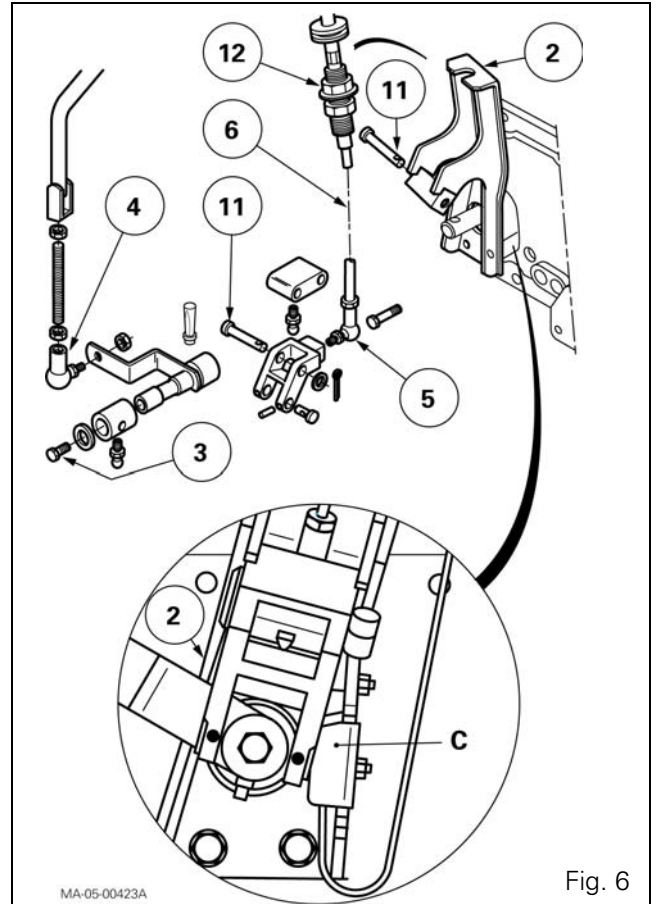
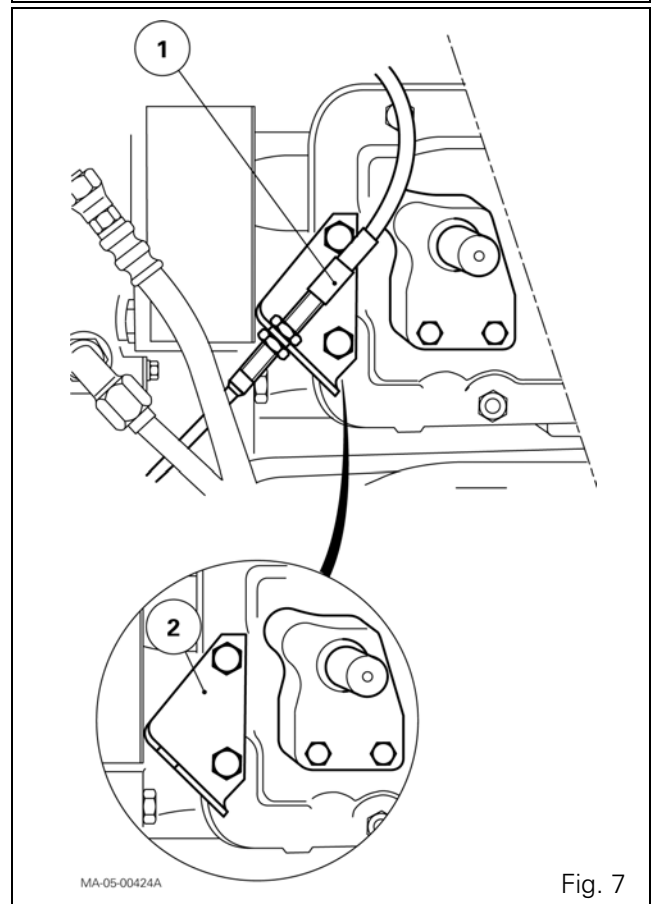

Fig. 6
Fig. 7
Removal (Fig. 6)
8. Disconnect the harness of the cell "C" (Fig. 6). Remove the ball joint (4). Remove screw (3).
9. Remove pins (11). Remove the ball joint (5).
10. Note the adjustment of the cable (6). Slightly loosen the top nut (12) and separate the cable from the bracket (2).
11. Disconnect the control cable (1) from the creeper unit on tractors fitted with this option (Fig. 7).
13. If fitted, remove the bracket (2) of the creeper unit control cable (Fig. 7).